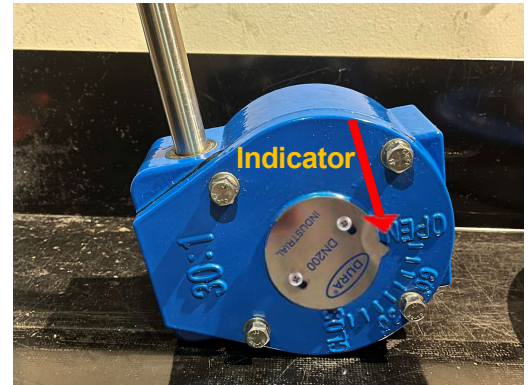

Figure 1
- Manually turn the gear operator hand wheel until the indicator is pointed to the open position. (See Figure 1)